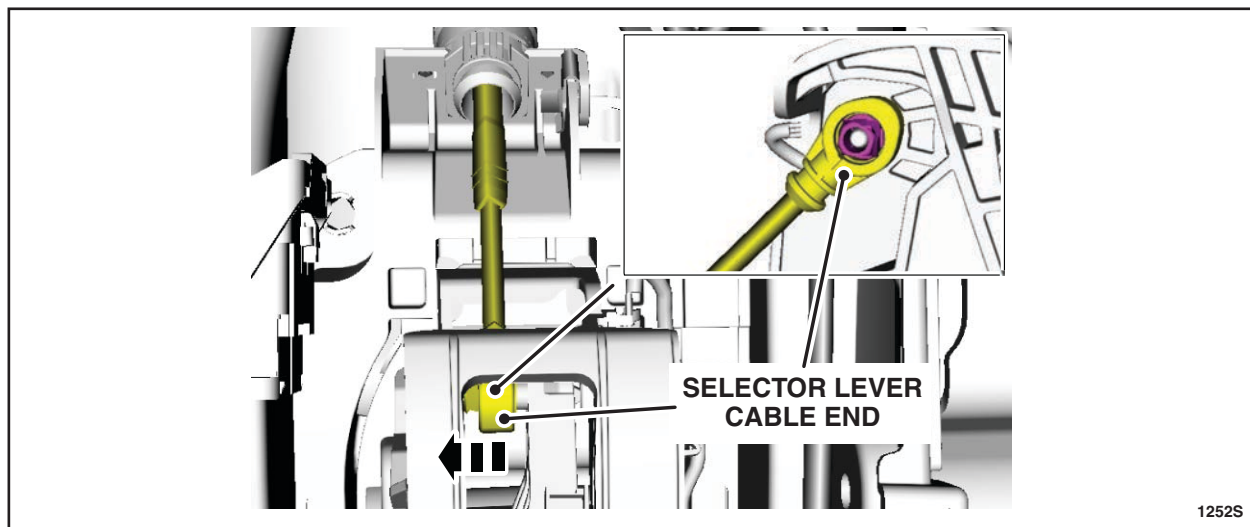

FIGURE 15
26. Disconnect the selector lever cable end from the selector lever. See Figure 15.
11. Connect the selector lever cable end from the selector lever. See Figure 15.